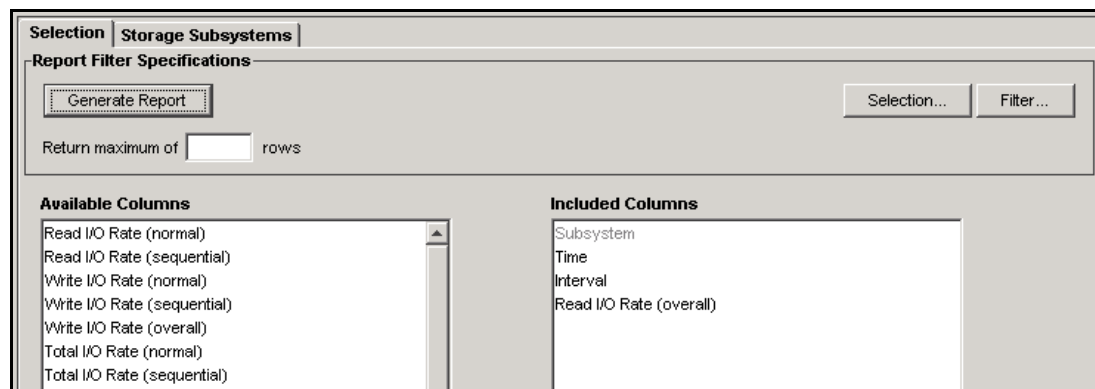

Figure 7-29 Selection of performance metrics
- In our example, we click the **Selection** tab because we want to generate a report that compares the overall read I/O rate of the DS4300 and the DS8000. Move to the Included column the performance metrics (Time, Interval and Overall Read I/O rate) you want to include in the report, as shown in Figure 7-29.